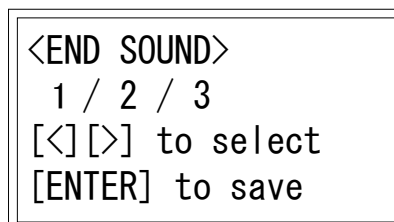

Figure 3-M: End Sound Setting Screen
- The end sound setting screen appears (Figure 3-M).